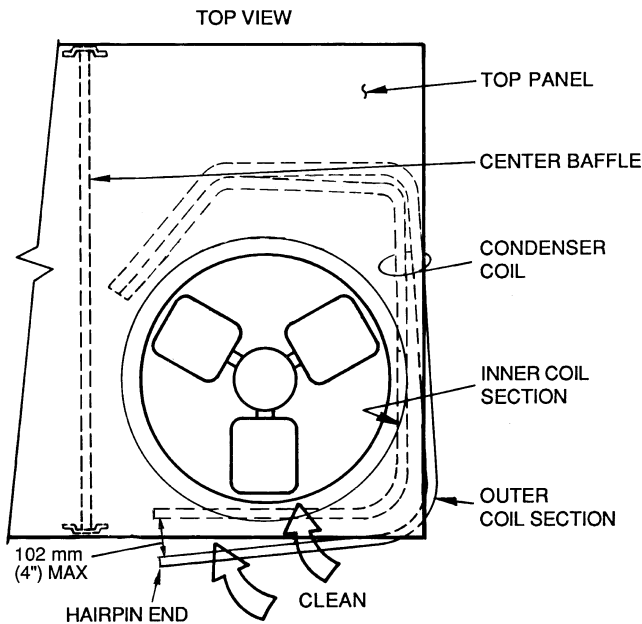

Fig. 47 — Separating Coil Sections
10. Carefully separate the outer coil section 3 to 4 in. from the inner coil section. See Fig. 47.